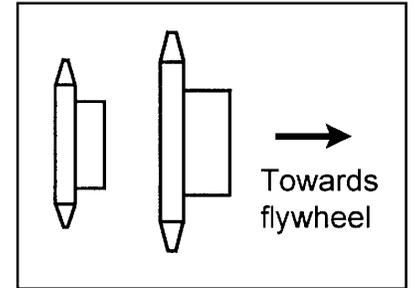

Fig. 4
11. When putting on the new sprockets, the larger one must go on first with the hub of the sprocket toward the wheel. The smaller one can then go on. Both sprockets can be put on finger tight. They do not need to be tightened with a wrench. See Fig. 4.